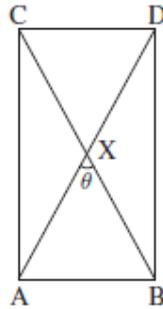

Figure Q1a: Bridge.
- a) **Figure Q1a** shows the symmetrical part of a bridge. Point X is the midpoint of ABCD. Find the size of θ angle if $CD= 8$ m and $AC= 16$ m.